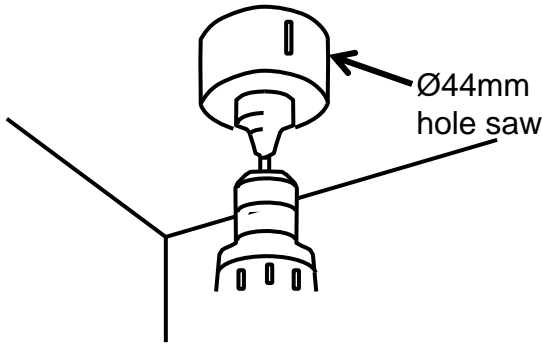

FIG 1
- 3) Use 44mm hole saw and carefully cut the hole in the plaster. (use appropriate personal protection equipment). FIG 1.